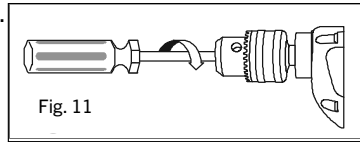

Fig. 11
3. Tap the hex key sharply with a mallet (4) in a CLOCKWISE direction. This action will loosen the screw in the chuck for easy removal.
6. Remove the chuck screw using a  $\oplus$ #2 screwdriver (Fig. 11).